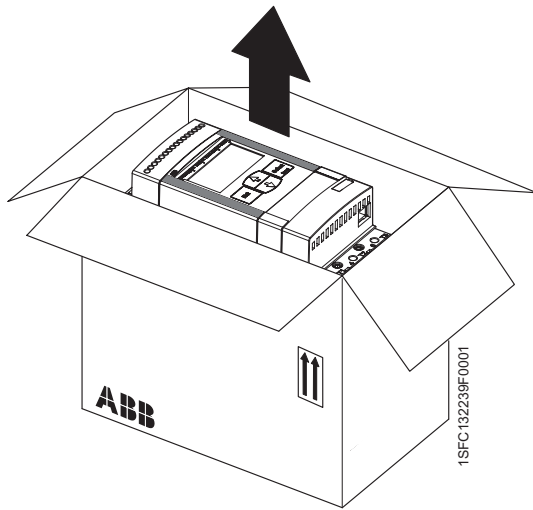

Figure 4.1: Unpacking PSE18...PSE170
- Check that the package is turned with the correct side up, figures 4.1 and 4.2.